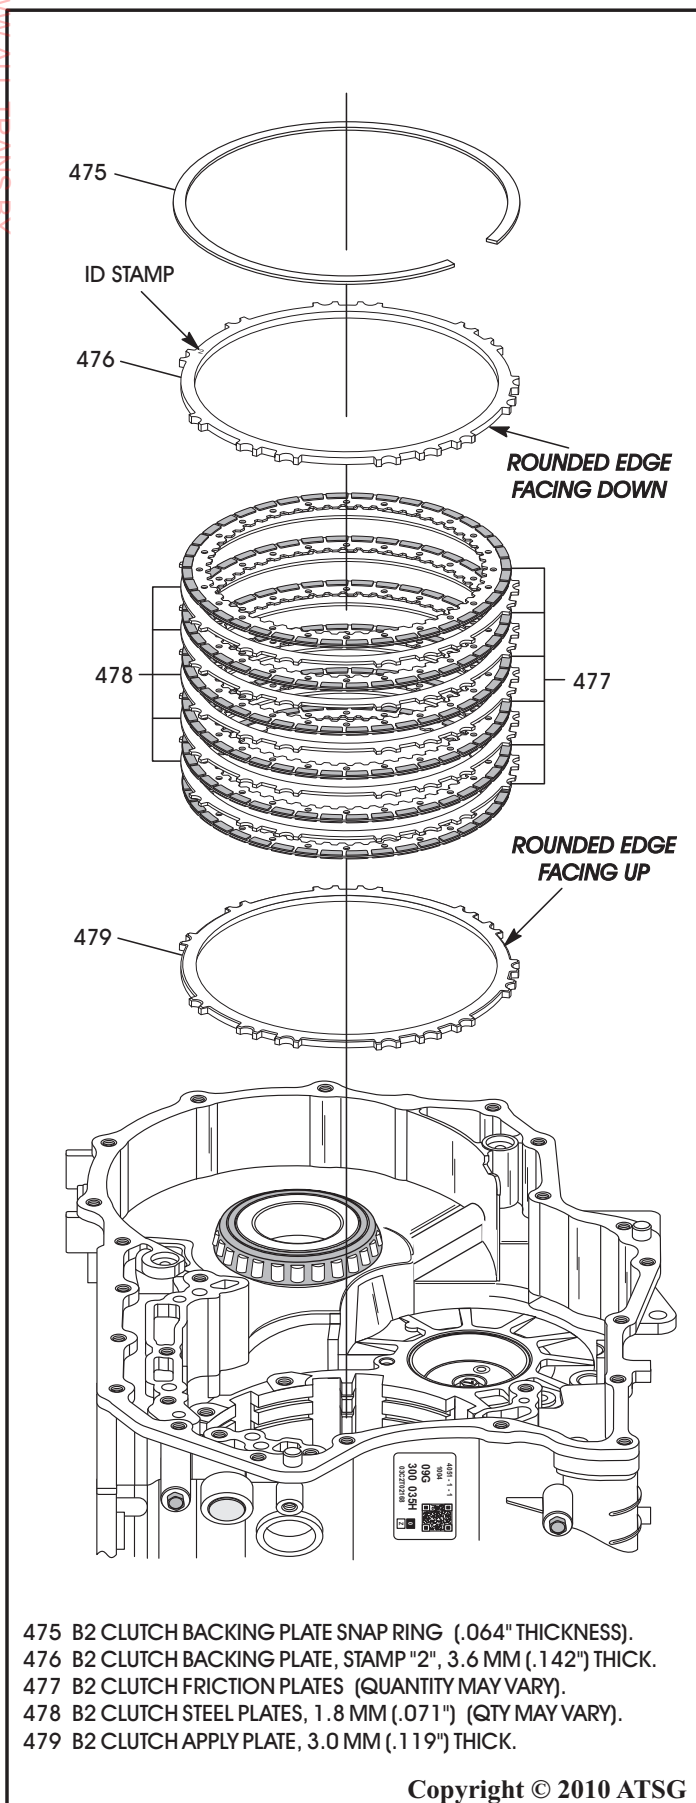

Figure 168
3. Install the B2 clutch apply plate, as shown in Figure 168, with the rounded edge facing up.
4. Install B2 clutch pack beginning with a friction plate onto the apply plate and alternating with a steel plate, as shown in Figure 168, until you have installed the proper quantity, as quantity may vary.
5. Install the B2 clutch backing plate on top of the last friction, as shown in Figure 168, with the rounded edge facing the friction.
6. Install the B2 clutch backing plate snap ring, as shown in Figure 168, with snap ring opening toward the transfer bearing race.